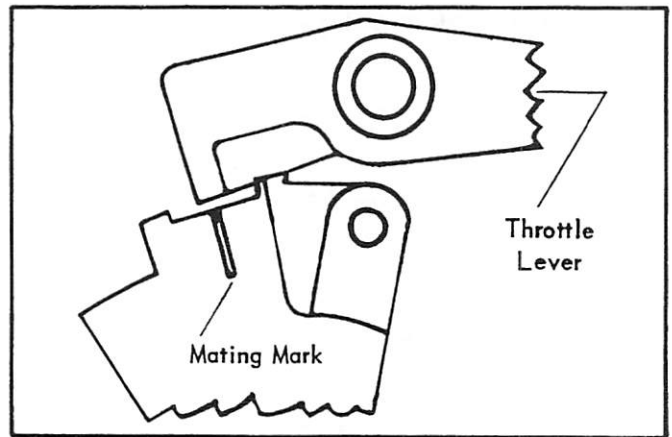
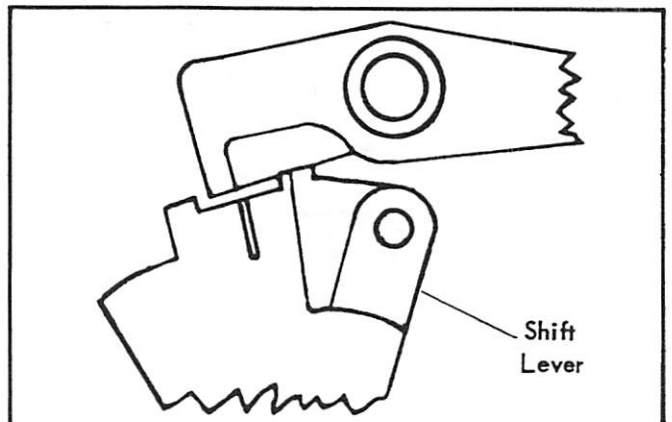

Figure 11. Lever Positions
Figure 12. Lever Positions
4. Shift back into neutral and check to see that throttle lever and shift lever are in position as shown in Figure 11. Disengage cable end and re-adjust brass barrel of throttle cable, if necessary, to be sure that mating mark on shift lever is to the right of indicating portion of throttle control lever, as shown in Figure 12. This will assure that engine is in neutral when control handle of remote control is in its detent position (neutral).
1. Place control lever in neutral position and be sure that neutral throttle lever is down all the way before attaching throttle cable to engine. (Figure 11)